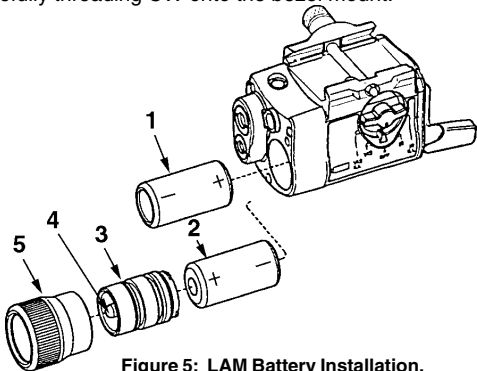

Figure 5: LAM Battery Installation.
a. Battery Installation, see Figure 5 below:
2. Install two (2) DL123A lithium batteries. Orient the batteries as indicated by the markings on the LAM body. It may be necessary to shake the unit to properly align the first battery into place inside the housing.
3. Reinstall the Bezel Mount by inserting the contact end into the body, lining-up the bayonet style feature and pushing firmly while turning in a Clock-Wise (CW) direction until it locks into position.